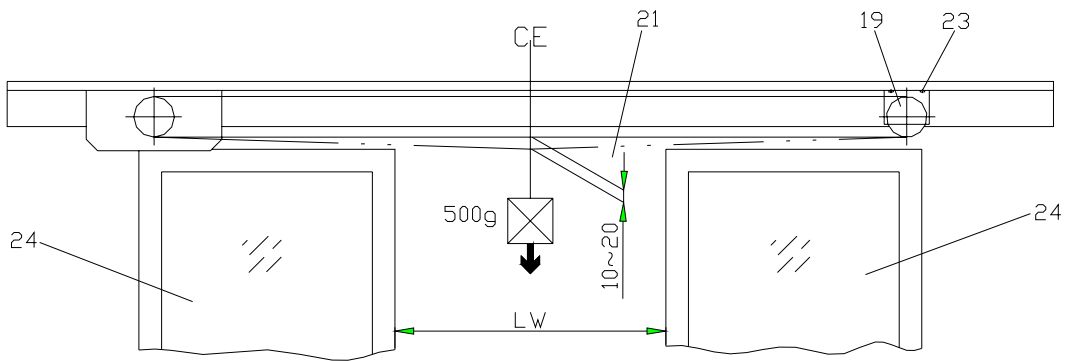

Figure 3.13
- 6 . Push the reverse wheel(19) outwards until toothed belt(21) lies flat. Tighten the screws slightly(23).
- 7 . Use a hammer to knock reverse wheel(19) until the dentiform belt has the following tension. See Fig. 3.13